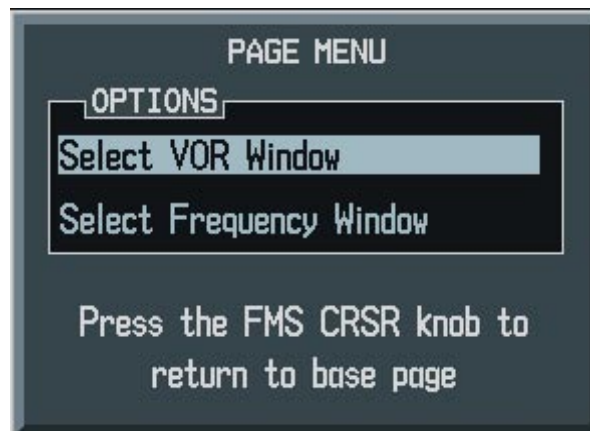

Figure 5-51 Nearest VOR Page Menu
- 1) With the Nearest VOR Page displayed, press the **MENU** Key (Figure 5-51).